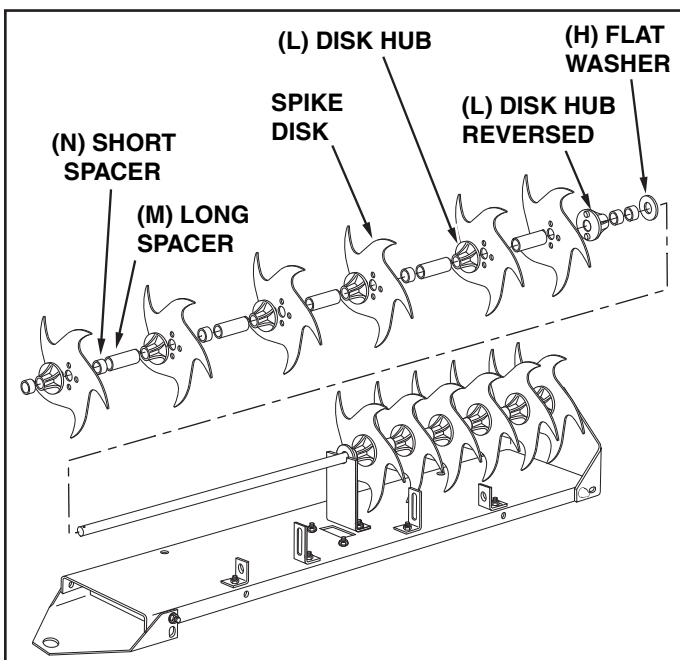

FIGURE 5
8. Assemble the following parts in sequence onto the long end of the axle (as shown in figure 5):
- a. A flat washer (H) and two short spacers (N).
- b. A disk hub (L reversed), spike disk and long spacer (M).
- c. A spike disk, disk hub (L), long spacer (M) and short spacer (N).
- d. A spike disk, disk hub (L) and long spacer (M).
- e. A spike disk, disk hub (L), long spacer (M) and short spacer (N).
- f. A spike disk, disk hub (L), long spacer (M) and short spacer (N).
- g. A spike disk, disk hub (L) and short spacer (N).